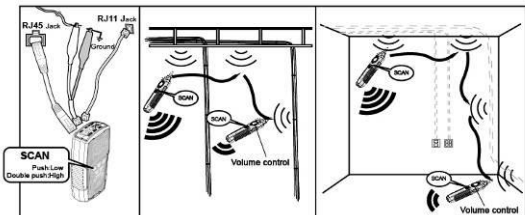

Figure 3 Locating cables
To locate cables, do the following steps (Figure 3) :
1. Connect the black alligator clip of the Transmitter to the ground, and then connect the red clip to a jack or punch-down block as shown in Figure 3.
2. As the Figure 3 shown, when push , the red indicator of "POWER/ BAT LOW" will light up and turn on the power.
3. As the figure 3 shown, put the receiver function switch at "**scan**", the red indicator in the middle will light up, and long press " " on receiver to operate cable tracing function. The tracing sound will be output from speaker. When put on the earphone, there will be no sound from speaker, but from the earphone.